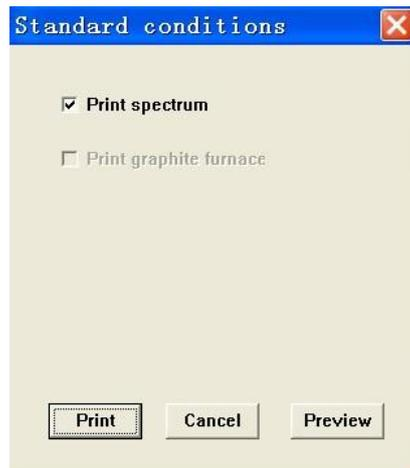

Figure 5-51
2. Press "Print", and a dialog will appear as shown in Figure 5-51.